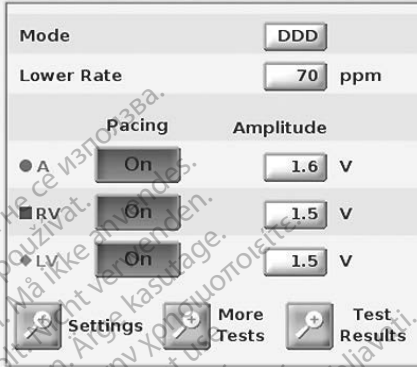

Figure 9. PSA Pacing and Amplitude panel
- PSA Pacing and Amplitude panel (Figure 9 on page 19)